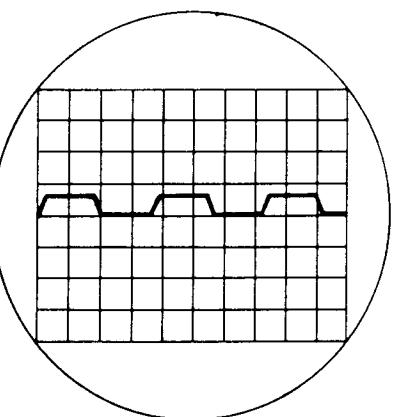

Fig. 11
11. Select **volts/power 400Hz filter** and **sine wave** input at a **frequency** of 1 KHz and adjust **oscillator level** for 100W output. Select **1Ω load**. The output should clip equally on both halves of the waveform as shown in Fig. 11.